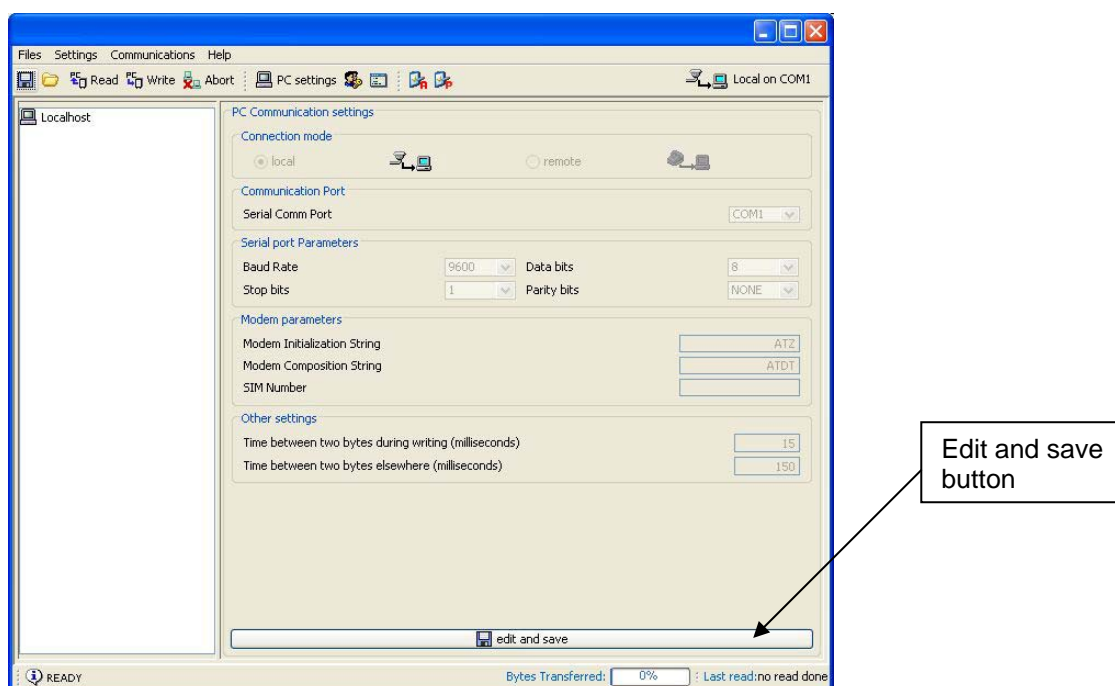

FIGURE 9 – 'COMMUNICATION SETTINGS' PANEL
- In the tree structure of the repeater system (FIGURE 9) select the repeater (double click on 'Repeater'): on the right side of the window, the configuration and status panels of the repeater will be shown (Description, Spectrum, Parameters, Alarms, Communications, Advanced).